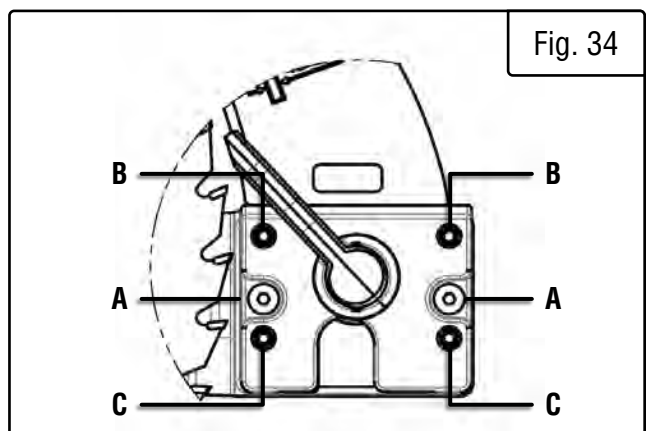

Fig. 34
9. If the issue is not a bent riving knife, adjust the screws on the riving knife block as shown in Fig. 34. Use a 3mm hex wrench to loosen the 2 cap screws (Fig. 34 - A). Then use the hex wrench to adjust the 2 top set screws (Fig. 34 - B) for top alignment adjustments, or the bottom set screws (Fig. 34 - C) for bottom alignment adjustments.